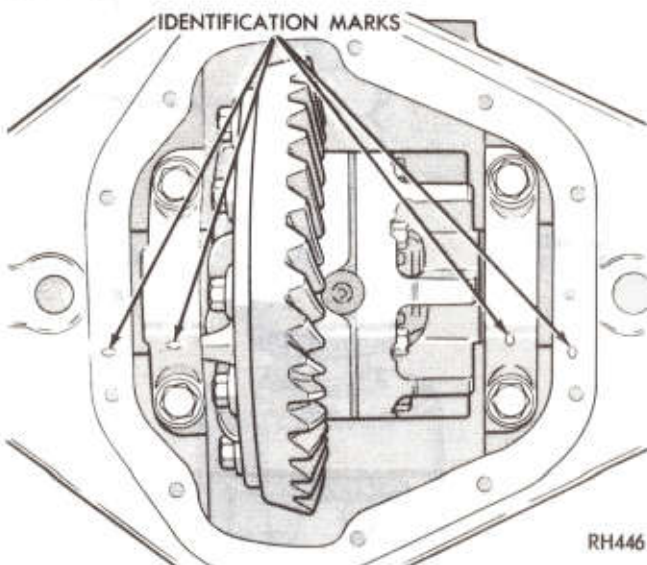

Fig. 27—Differential Installed in Carrier
(16) Install bearing caps. Make sure the letters stamped on the caps correspond with those on the carriers. Tighten bearing cap screws to 80-90 ft. lbs. (108-122 N·m). (Fig. 27).